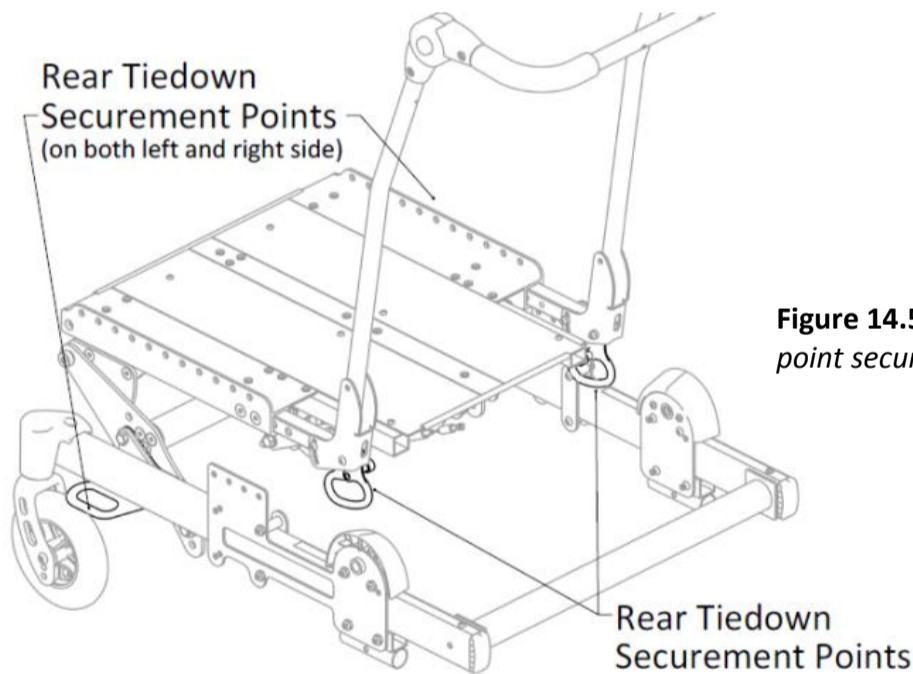

Figure 14.50: Transit Tiedown 4 point securement location.
4. The Stellar Transit Tiedown System is designed for a four-point (two front, two rear) strap-type tiedown system (Figure 14.50). Attach the WTORS in accordance with the manufacturer's instructions and RESNA WC-4:2012, Section 18 or ISO 10542-1:2012- Part 1.